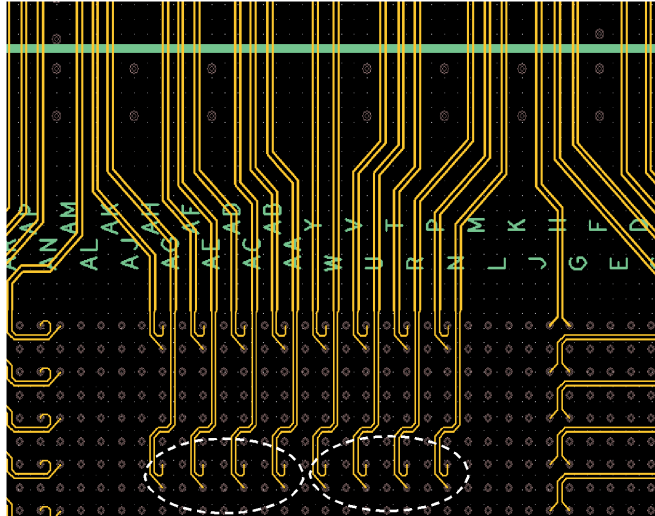

Figure 7 Trace Routing on Tx Interface Showing Interleaving of XAUI lanes (Four XAUI Tx Interfaces Shown)
- Beneath the package, route signal traces between rows of package balls as shown in Figure 7. Signal traces are 4 mils wide between package balls and expand to 5.5 mils outside the package perimeter.